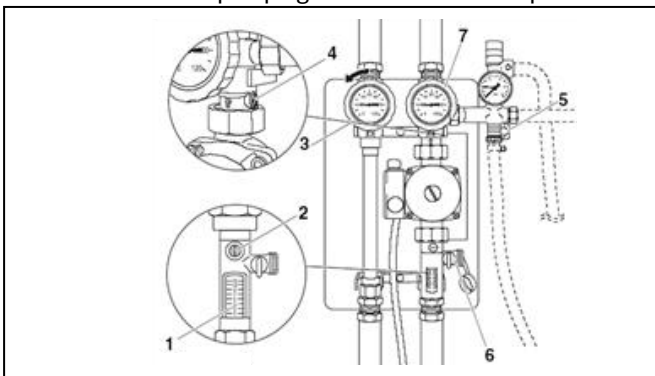

Fig. 1: Solar pump station
- ▶ When cool enough depressurize the solar circuit via the pumping station fill and drain valve (Fig 1, Item 6) or a suitable drain-off point on the solar circuit. **NEVER** use the PRV to depressurize or drain the solar circuit.